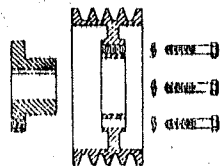

Fig. 1. Standard Mounting
2. Assemble bushing into mating part as illustrated in Fig. 1 or 2 (whichever applies). Loosely insert the cap screws into this assembly. Do not lubricate the cap screw threads. (Note: on M - S bushings install the bushing in the hub in such a way that the two extra holes in the hub are located as far from the sawcut in the bushing as possible.)